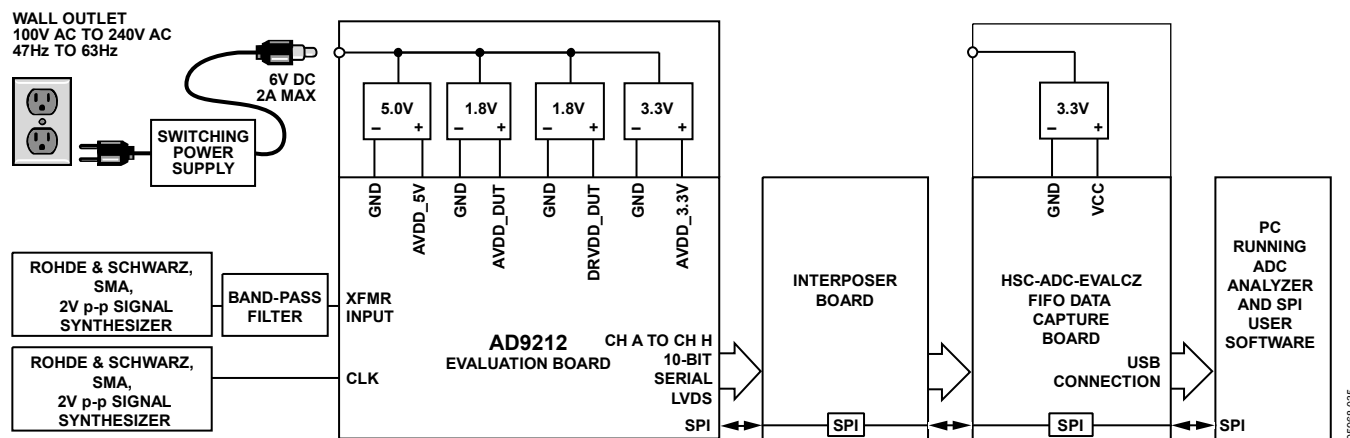
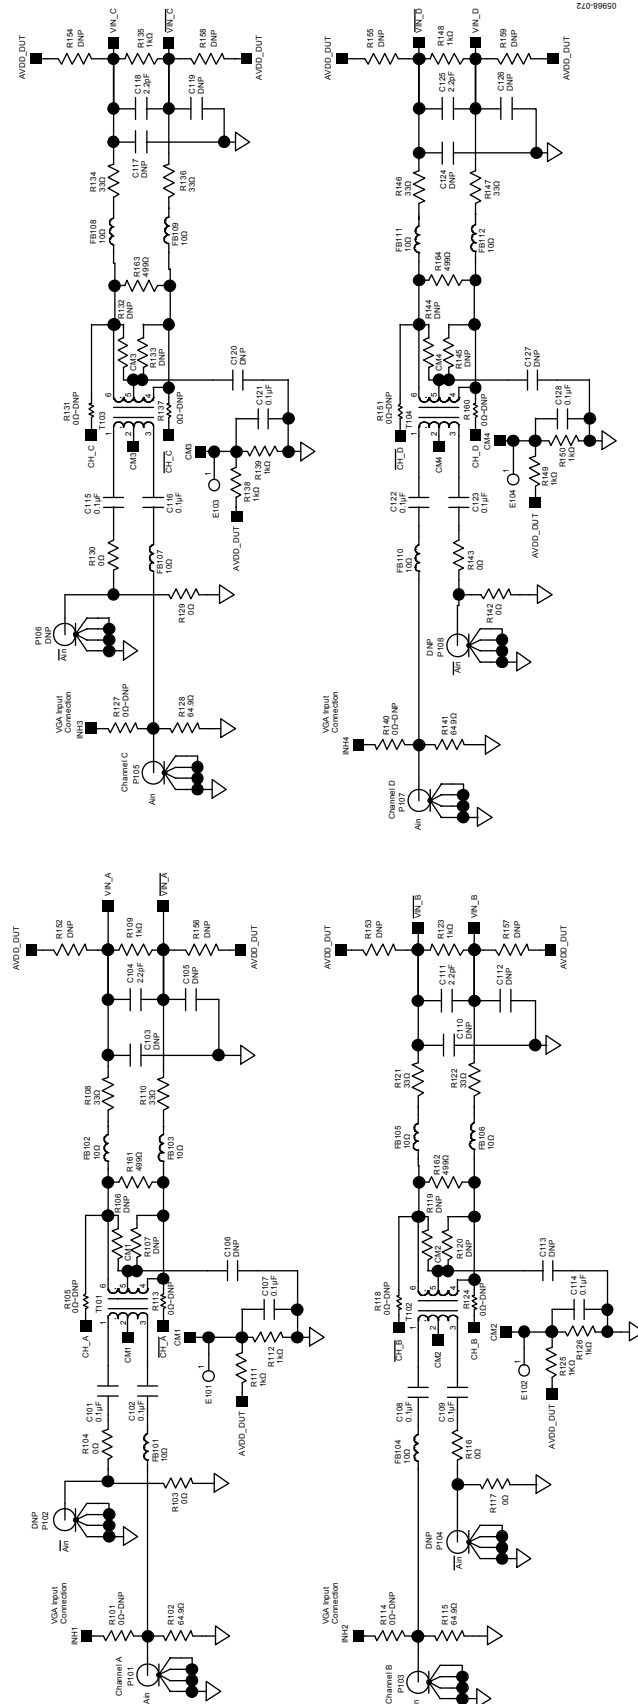
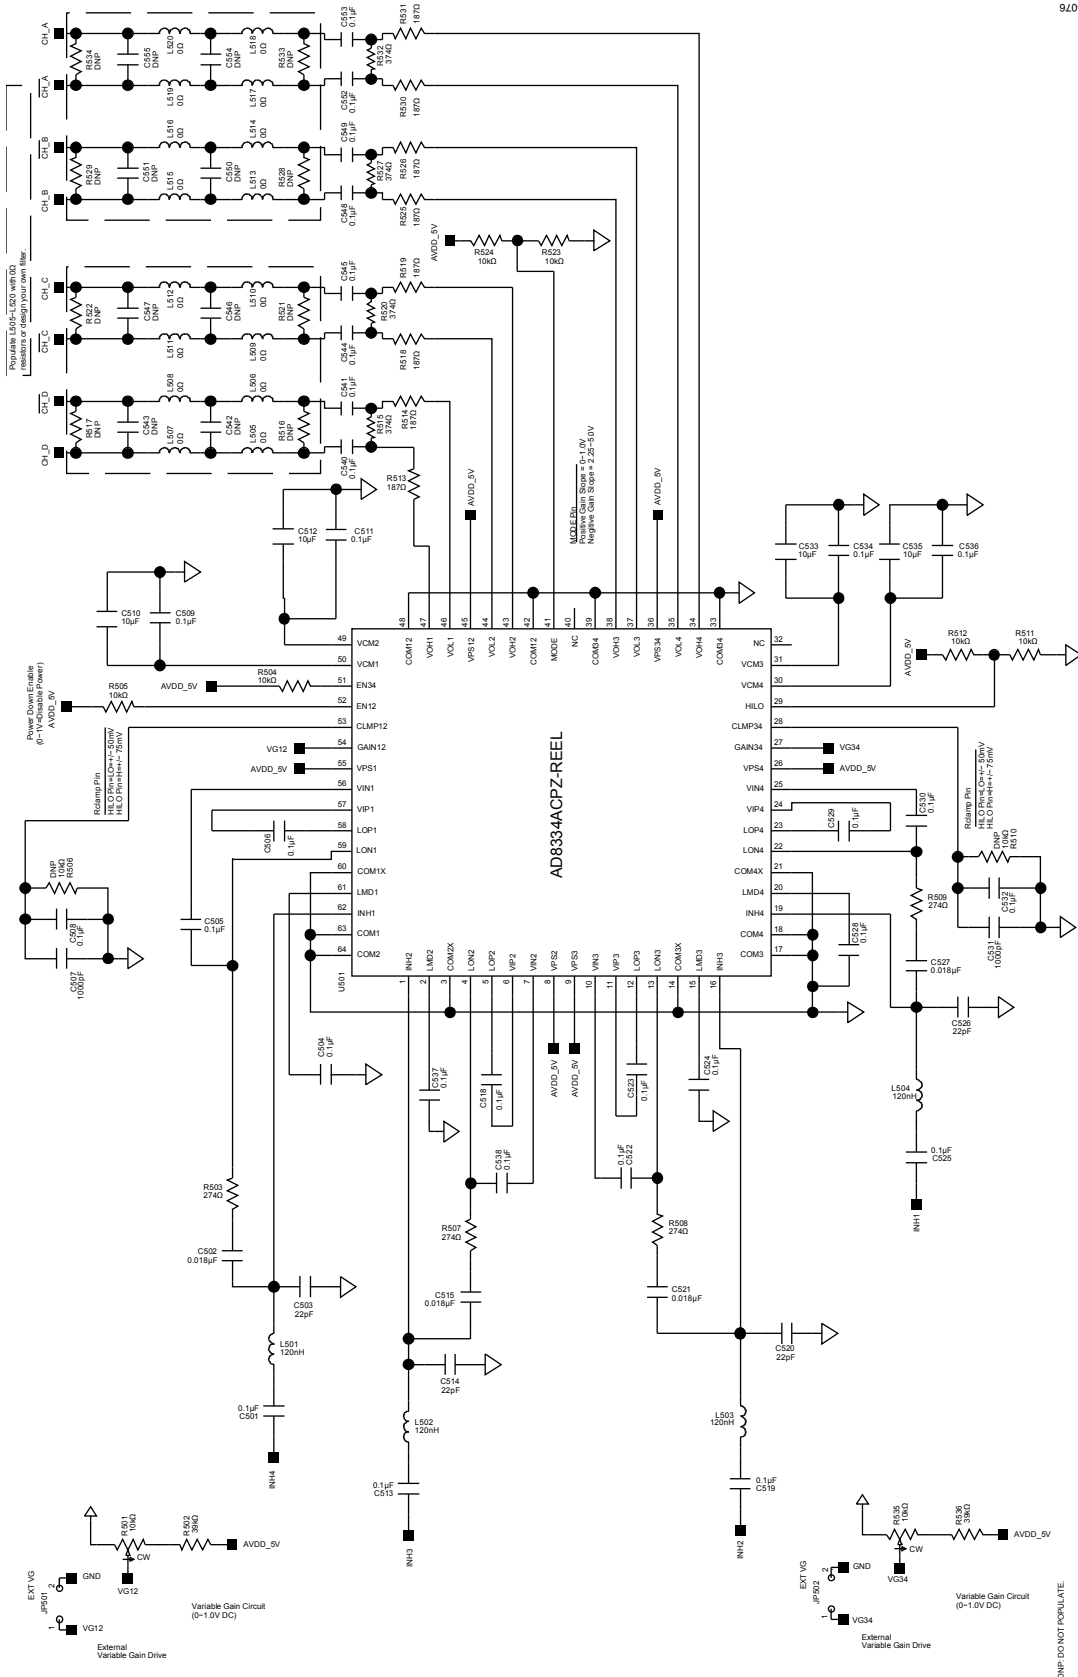

Figure 70. Evaluation Board Connection
Figure 74. Evaluation Board Schematic, DUT Analog Inputs
Figure 78. Evaluation Board Schematic, Optional DUT Analog Input Drive
The AD9212 evaluation board provides all the support circuitry required to operate the ADC in its various modes and configurations. The converter can be driven differentially by using a transformer (default) or an AD8334 driver. The ADC can also be driven in a single-ended fashion. Separate power pins are provided to isolate the DUT from the drive circuitry of the AD8334. Each input configuration can be selected by changing the connections of various jumpers (see Figure 74 to Figure 78). Figure 70 shows the typical bench characterization setup used to evaluate the ac performance of the AD9212. It is critical that the signal sources used for the analog input and clock have very low phase noise (<1 ps rms jitter) to realize the optimum performance of the converter. Proper filtering of the analog input signal to remove harmonics and lower the integrated or broadband noise at the input is also necessary to achieve the specified noise performance.
See Figure 74 to Figure 84 for the complete schematics and layout diagrams demonstrating the routing and grounding techniques that should be applied at the system level.
- **D + x, D - x:** If an alternative data capture method to the setup shown in Figure 74 is used, optional receiver terminations, R318 and R320 to R328, can be installed next to the high speed backplane connector.